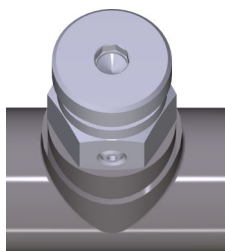

Fig. 35: Opening the valve
*The valve (Fig. 35) is used for bleeding when draining.*